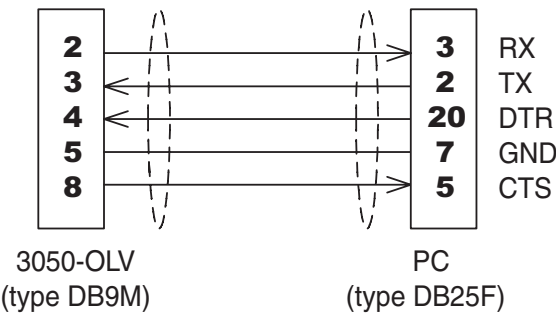

Figure 2-7.
3. Connect RS-232 or RS-485 serial communication from analyzer to the PC being used for customer parameter setup (Figures 2-7 through 2-9).